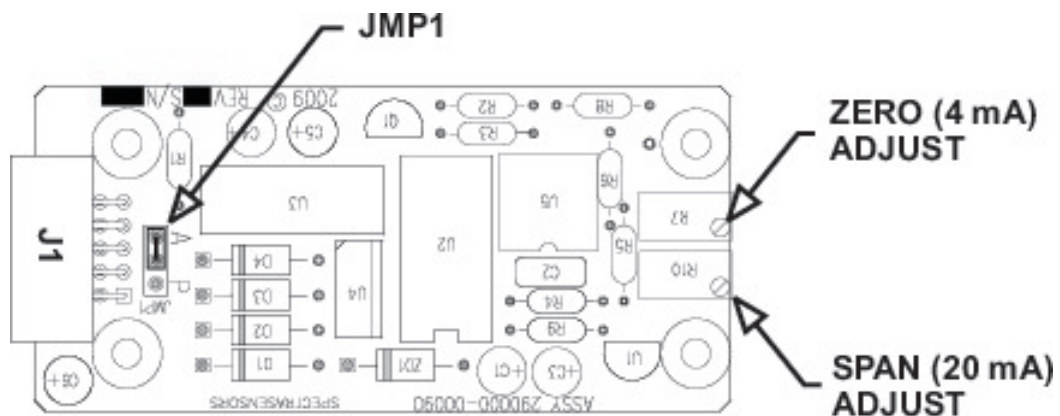

Figure 3-9 4 to 20 mA board
6. Move the jumper (JMP1) connecting the center pin to pin A, shown in Figure 3-9, to connect the center pin with pin P.